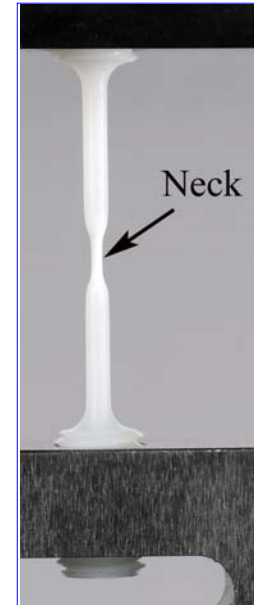

Figure 3. Necking
**Strain Softening** - Following yielding some materials will appear to soften (load decreases) as a neck forms (see Fig. 3) and the structure begins the transformation from one of randomly oriented chains and crystallites into a more aligned structure.